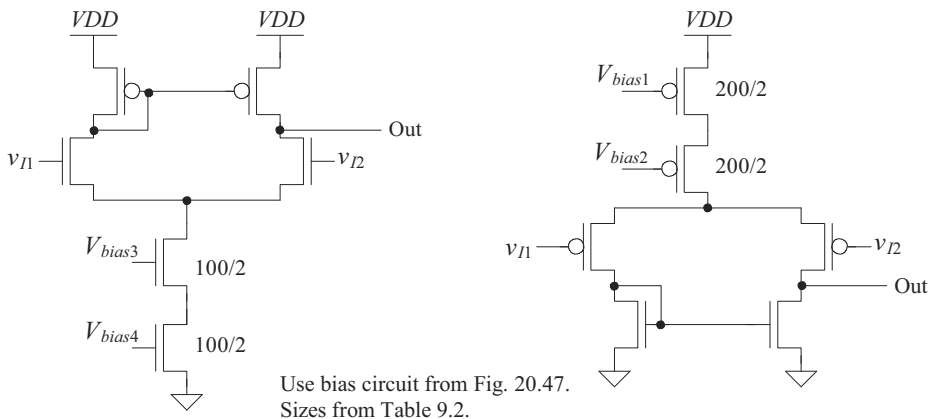

Figure 22.37 Diff-amps for Problem 22.5.
- 22.5** Determine the small-signal gain and the input common-mode-range (CMR) for the diff-amps shown in Fig. 22.37. Verify your answers with SPICE.
- 22.7** Estimate the slew-rate limitations in charging and discharging a 1 pF capacitor tied to the outputs of the diff-amps shown in Fig. 22.37. Verify with SPICE.